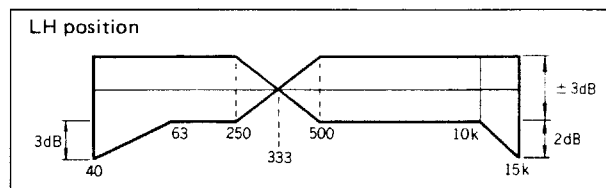

Fig. 11
2. LH position (Refer to Fig. 11)